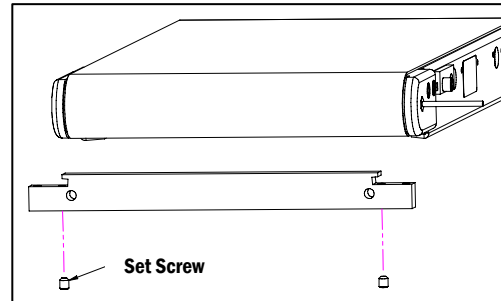

Figure 1
- b. Slide the mount into the conveyor's flange and tighten the set screw to the frame (**Figure 1**). The Mount can be located anywhere along the length of the conveyor frame.